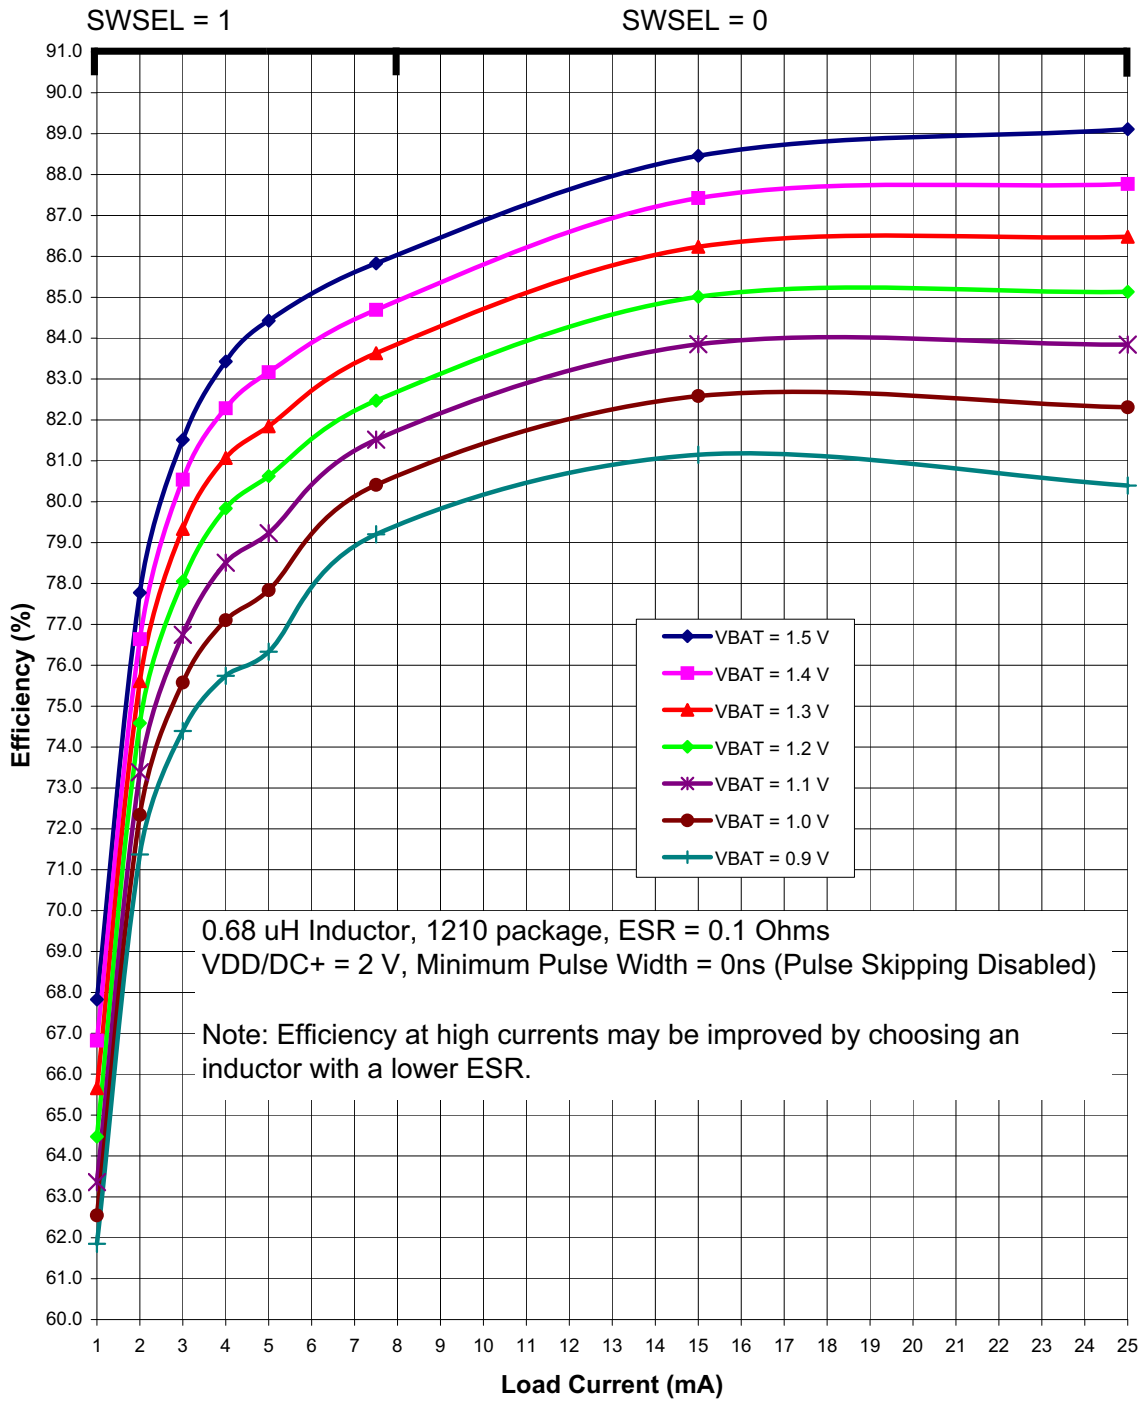
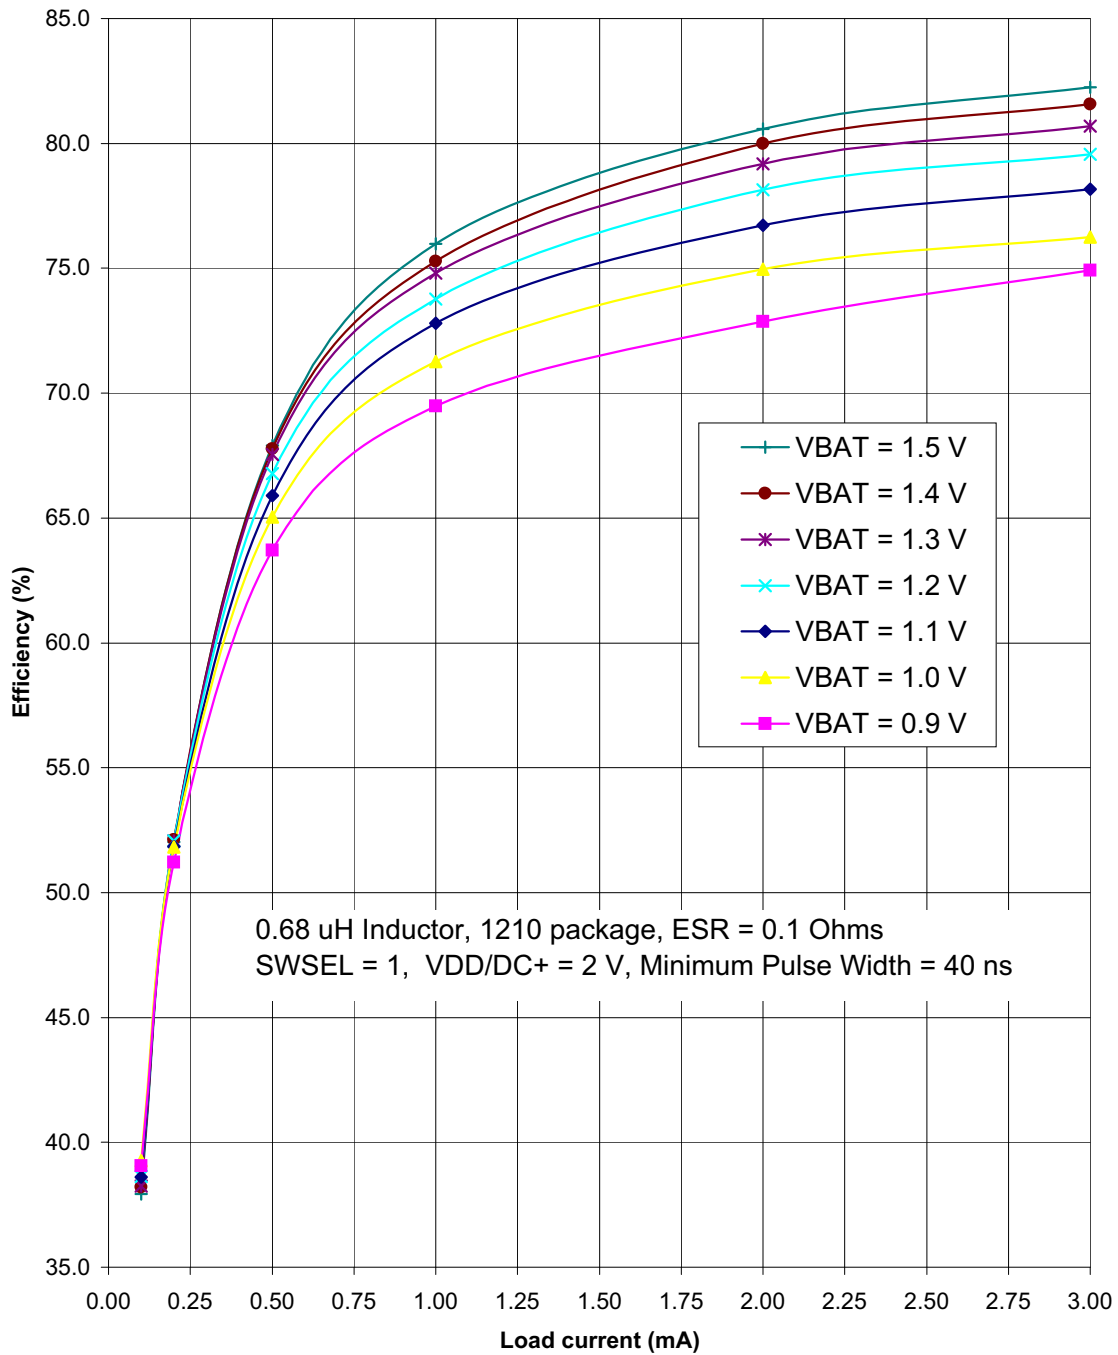

Figure 4.3. Typical DC-DC Converter Efficiency (High Current, VDD/DC+ = 2 V)
Figure 4.5. Typical DC-DC Converter Efficiency (Low Current, VDD/DC+ = 2 V)
<ol style="list-style-type: none"> <li>Based on device characterization data; Not production tested.</li> <li>SYSCLK must be at least 32 kHz to enable debugging.</li> <li>Digital Supply Current depends upon the particular code being executed. The values in this table are obtained with the CPU executing an "sjmp \$" loop, which is the compiled form of a while(1) loop in C. One iteration requires 3 CPU clock cycles, and the flash memory is read on each cycle. The supply current will vary slightly based on the physical location of the sjmp instruction and the number of flash address lines that toggle as a result. In the worst case, current can increase by up to 30% if the sjmp loop straddles a 128-byte flash address boundary (e.g., 0x007F to 0x0080). Real-world code with larger loops and longer linear sequences will have few transitions across the 128-byte address boundaries.</li> <li>Includes oscillator and regulator supply current.</li> <li>IDD can be estimated for frequencies <math>\leq 10</math> MHz by simply multiplying the frequency of interest by the frequency sensitivity number for that range, then adding an offset of 90 <math>\mu</math>A. When using these numbers to estimate <math>I_{DD}</math> for <math>&gt;10</math> MHz, the estimate should be the current at 25 MHz minus the difference in current indicated by the frequency sensitivity number. For example: <math>V_{DD} = 3.0</math> V; <math>F = 20</math> MHz, <math>I_{DD} = 4.1</math> mA – <math>(25 \text{ MHz} - 20 \text{ MHz}) \times 0.120 \text{ mA/MHz} = 3.5</math> mA.</li> <li>The Supply Voltage is the voltage at the VDD_MCU pin, typically 1.8 to 3.6 V (default = 1.9 V). Idle IDD can be estimated by taking the current at 25 MHz minus the difference in current indicated by the frequency sensitivity number. For example: <math>V_{DD} = 3.0</math> V; <math>F = 5</math> MHz, Idle <math>I_{DD} = 2.5</math> mA – <math>(25 \text{ MHz} - 5 \text{ MHz}) \times 0.095 \text{ mA/MHz} = 0.6</math> mA.</li> <li>The supply current specifications in Table 4.2 are for two cell mode. The VBAT current in one-cell mode can be estimated using the following equation:           <math display="block">\text{VBAT Current (one-cell mode)} = \frac{\text{Supply Voltage} \times \text{Supply Current (two-cell mode)}}{\text{DC-DC Converter Efficiency} \times \text{VBAT Voltage}}</math> <p>The VBAT Voltage is the voltage at the VBAT pin, typically 0.9 to 1.8 V.            The Supply Current (two-cell mode) is the data sheet specification for supply current.            The Supply Voltage is the voltage at the VDD/DC+ pin, typically 1.8 to 3.3 V (default = 1.9 V).            The DC-DC Converter Efficiency can be estimated using Figure 4.3–Figure 4.5.</p> </li> <li>The EZRadioPRO peripheral is placed in Shutdown mode.</li> </ol>